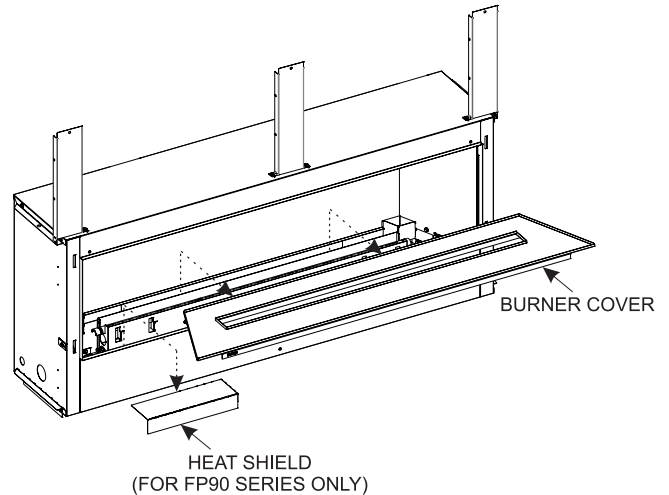

Figure 10
1. To access and install the junction box and wiring, begin by removing the burner cover. Lift it straight up off of the burner and set aside. **See Figure 10.** For VFLL(38,48)FP90 Units: Remove the heat shield and disconnect the wire to the switch on the heat shield.
- 10b. For VFLL(38,48)FP90 fireplaces, set receiver for "remote". See page 29. Set switch on side of heat shield to standing pilot or intermediate pilot. **See Figure 65**. Verify that the heat shield is back in place. **See Figure 10**.
11. Replace burner cover. **See Figure 10**.